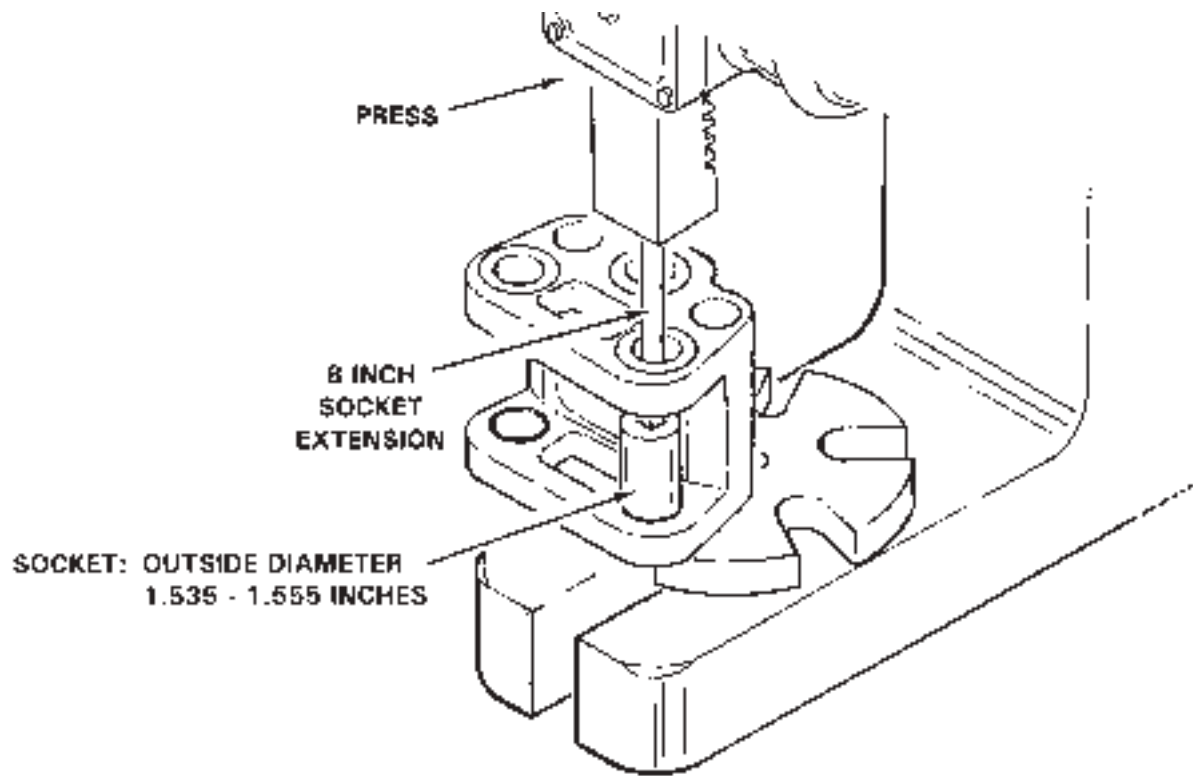

FIGURE 62-5 MAIN ROTOR HUB BEARING REMOVAL
- Refer to Figure 62-5. Press old bearing(s) out of hub using a socket having an outer diameter of 1.535-1.555 inches and an 8 inch extension.